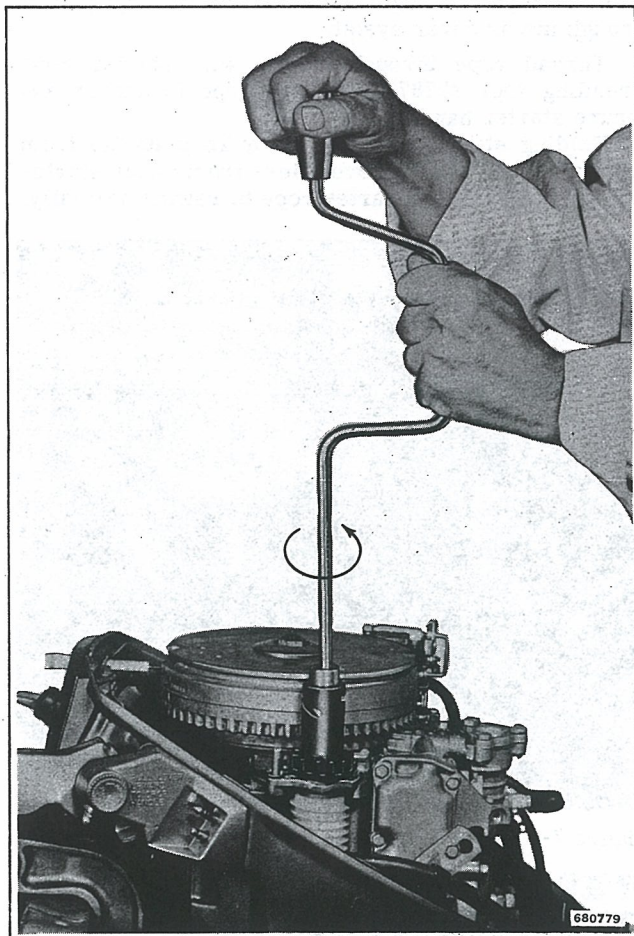

Figure 7-9. Winding Main Spring
- b. Place heavy duty screw driver or brace with screw driver bit in slot in top of starter spool. See Figure 7-9. Wind main spring counterclockwise 20-1/2 turns. Rope anchor hole in spool should face port side of power head. Raise pinion gear to engage flywheel and lock in position with handle of pliers.